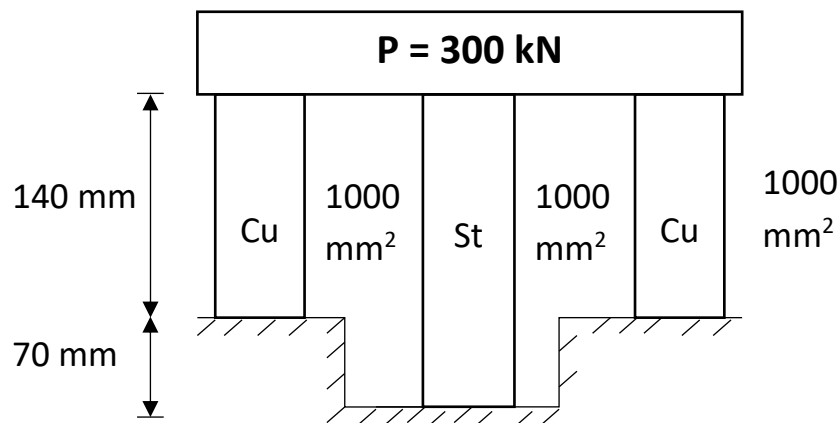

Figure 1(b) / *Rajah 1(b)*
- (c) Figure 1(c) below shows a composite bar made from aluminium and brass with a temperature of 40°C. Calculate the stress in each bar if the composite bar has been heated to 76°C. Given,